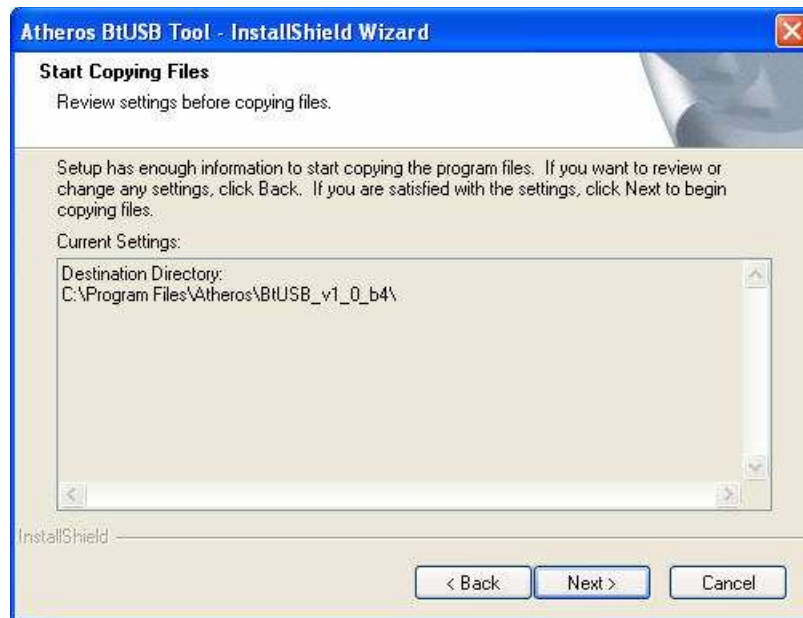

Figure 1-3. BtUSB Tool InstallShield Copying
- Click Next or Browse to a different location if you do not want to install at the default location. (Default installation location is assumed here.) This displays Start Copying Files screen. See Figure 1-3.